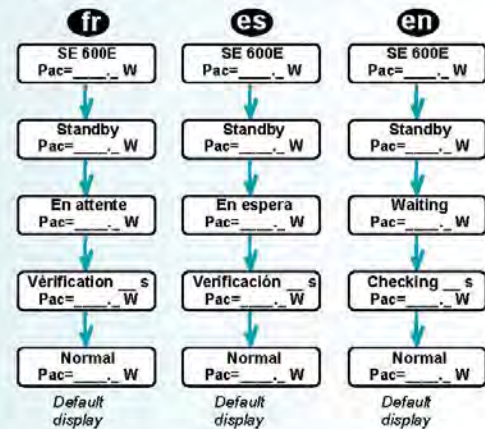

Fig. 14
- Once the DC voltage level is sufficient, the SunEzy inverter successively and automatically displays the information shown in the diagram below (Fig. 14) depending on the language choice made.